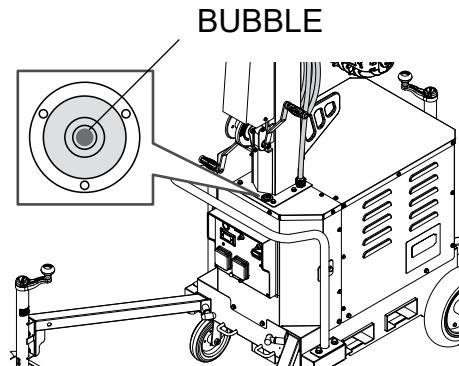

Figure 16. Cart Level
1. When adjusting the outriggers of the cart, make sure that the air bubble is in the middle of the level (Figure 16).